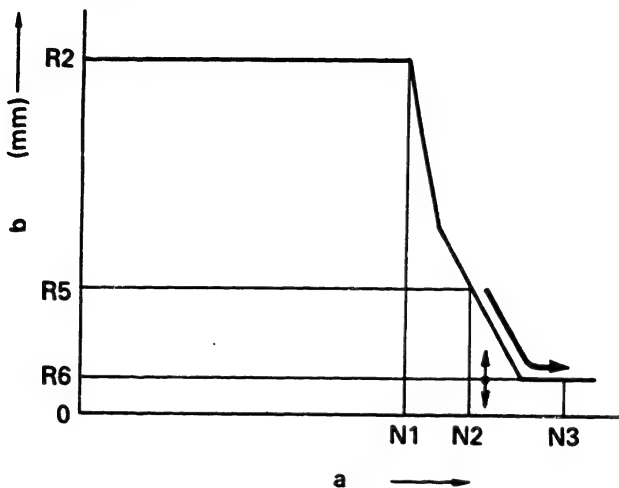

Fig. 73
- Further increase pump speed and check that the control rack is positioned at R_6 when the pump speed is N_3 . (Fig. 73)